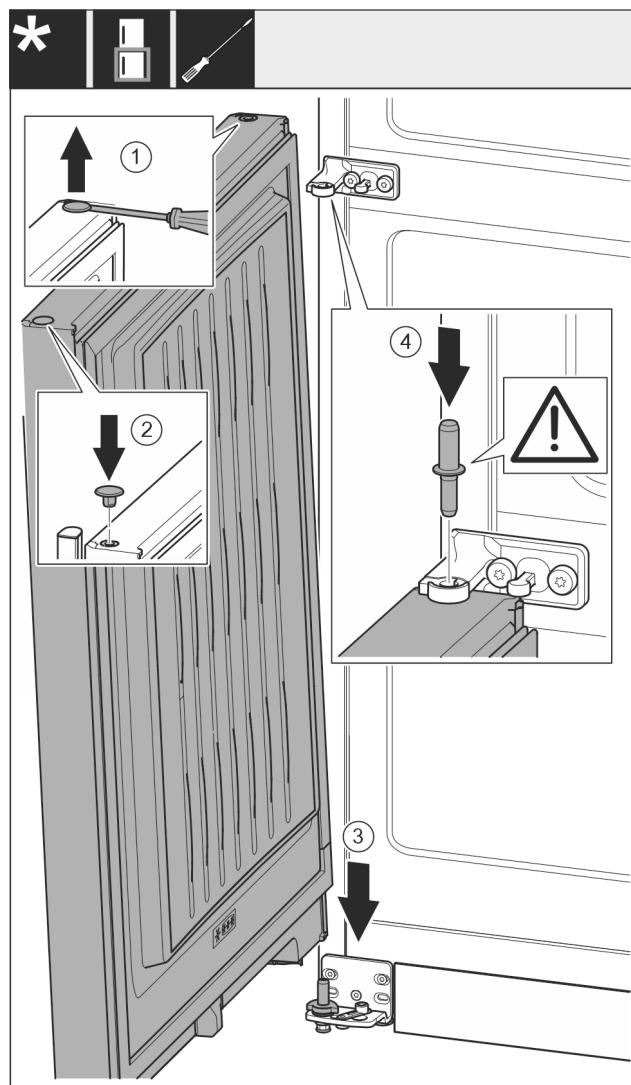

Fig. 21
- Carefully lift the plug Fig. 21 (1) with a slotted screwdriver and pull it out.
- Reinsert the plug Fig. 21 (2) on the other side of the door.
- Fit the door Fig. 21 (3) onto the lower bearing pin from the top.
- Insert the center bearing bolt Fig. 21 (4) through the center swap bearing block into the bottom door. In the process, make sure that the latching cam shows towards the rear.